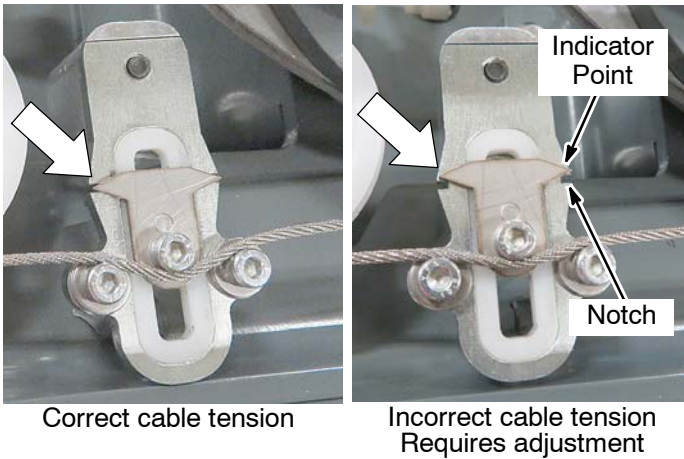

Fig. 5
7. Check the alignment on the tension gauge tool (Figure 5). The indicator points should align with the notches. If the indicator points do not align with the notches, cable tension adjustment is required.